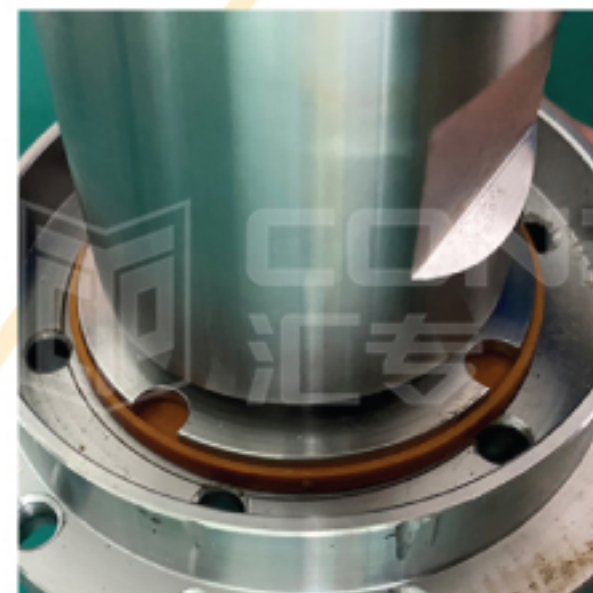

Figure 3
(3) Install the circular flange on the horn. (As shown in Figure 3).